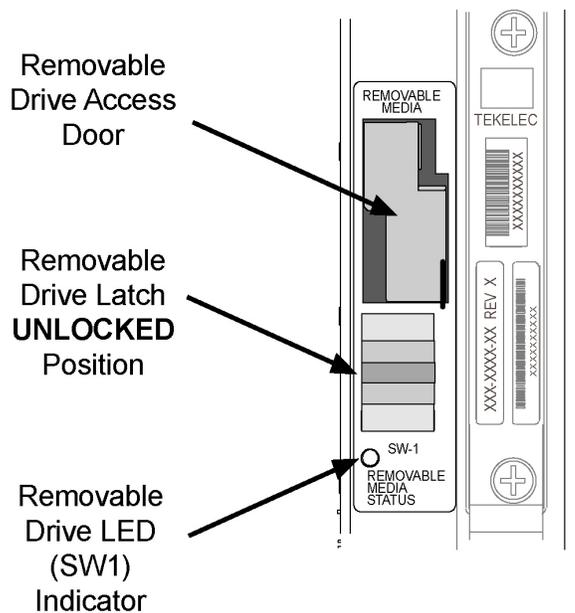

Figure 11: Removable USB Drive UNLOCKED
2. Move SW1 from the LOCKED to the unlocked position and wait for the LED to indicate a steady blue state. See Figure 11: Removable USB Drive UNLOCKED.